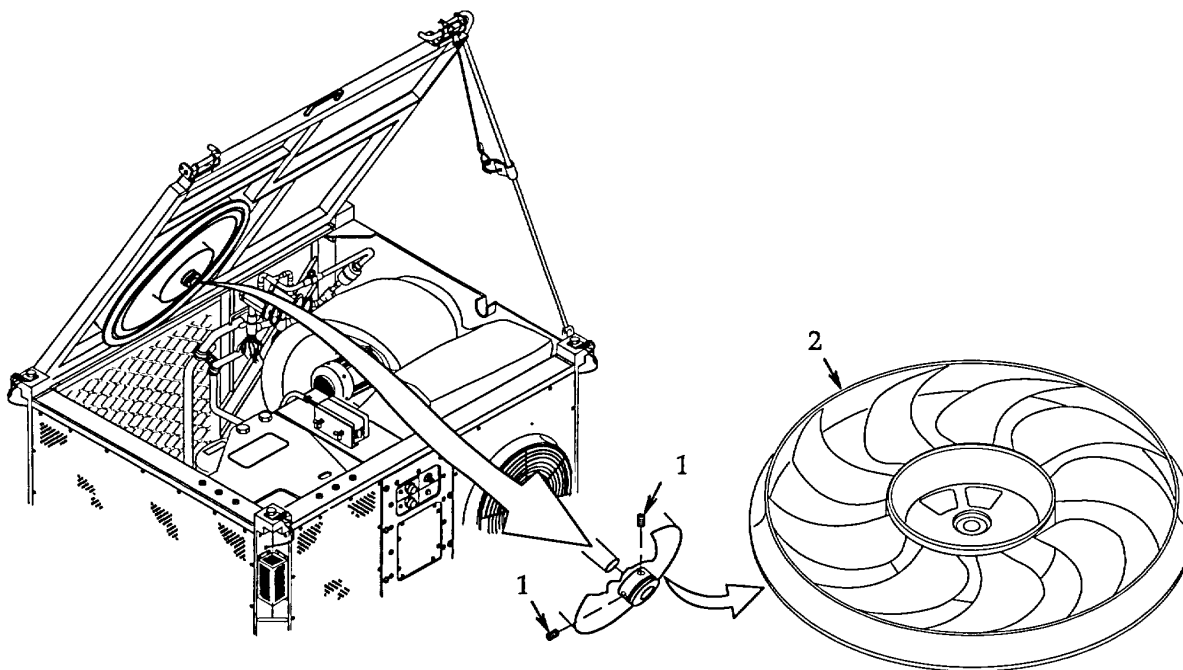

Figure 4-13. Outside Fan.
- a. **Removal.** See figure 4-13.
b. **Installation.** See figure 4-13.
- (1) Install outside fan (2). Align one setscrew (1) over flat on outside fan motor shaft (3) then tighten two setscrews.
- (2) Lower and secure cover per paragraph 4.2.
- (3) Connect FDECU to power source and operate per paragraph 2.4.